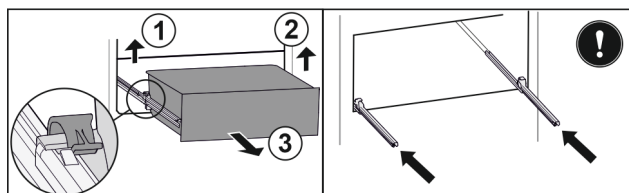

Fig. 147
- Lift left clamp and simultaneously pull drawer forwards on the left. Fig. 147 (1)
- Lift right clamp and simultaneously pull drawer forwards on the right. Fig. 147 (2)
- Remove drawer to the front. Fig. 147 (3)